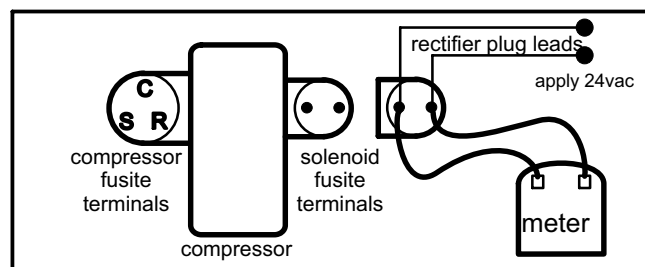

FIGURE 15
4. Turn the low voltage power back onto the unit. Supply 24VAC to the wires of the full wave rectifier plug. Set volt meter to DC volts and measure the DC voltage at the female connector end of the full wave rectifier plug. The DC voltage reading should be 1.5 to 3 volts lower than the input voltage to the plug wire leads. (EX: Input voltage is 24VAC output voltage is 22VDC). See figure 15.